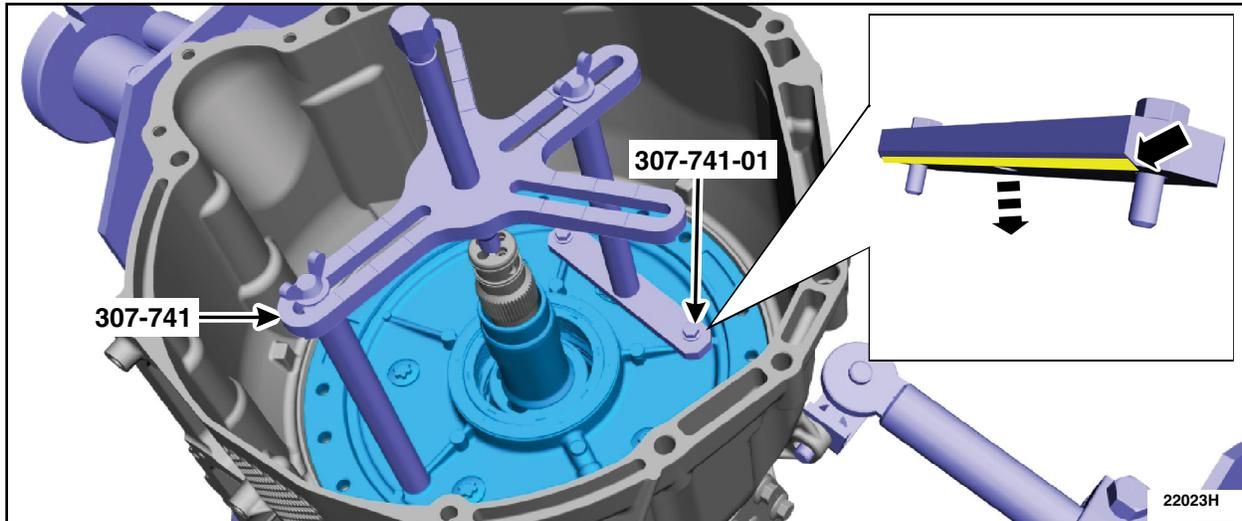

FIGURE 17
20. Use the Special Service Tool: 307-741 Spring Compressor, F Clutch. , 307-741-01 Remover, Front Support & Cover to separate the front support assembly from the transmission case and remove the front support assembly. See Figure 17.